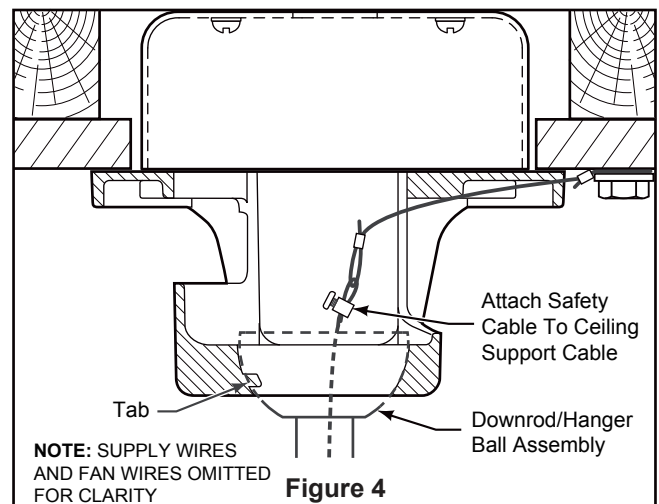

Figure 4
4. Slide downrod into the downrod support on top of the motor. Install the clevis pin by aligning the holes in the downrod support with holes in the downrod. Secure clevis pin with hairpin clip. Tighten the two set screws with nuts in the downrod support. (Figure 4)
4. Carefully lift the fan and seat the downrod/hanger ball assembly onto the hanger bracket that was just attached to the outlet box. Be sure the groove in the ball is lined up with tab on the hanger bracket. (Figure 4)
5. Attach the safety cable to ceiling support cable. Slide cable clamp and washer onto safety cable (from fan). Place the end of cable through the loop of ceiling support cable. Pull as much cable through loop as possible. Feed end of cable into clamp hole and firmly tighten screw. (Figure 4)
3. Connect wires using connectors as shown in Figure 4.
4. Assemble the LED assembly to the light kit assembly using the screws removed in Step 3A. (Figure 4)
- 4. To make fan operational, install two 3V batteries (included) in hand-held remote transmitter, with fan power off. Then, follow the remote code setting process. If not used for long periods of time, remove battery to prevent damage to transmitter. Store the remote away from excessive heat or humidity. (Figure 4)